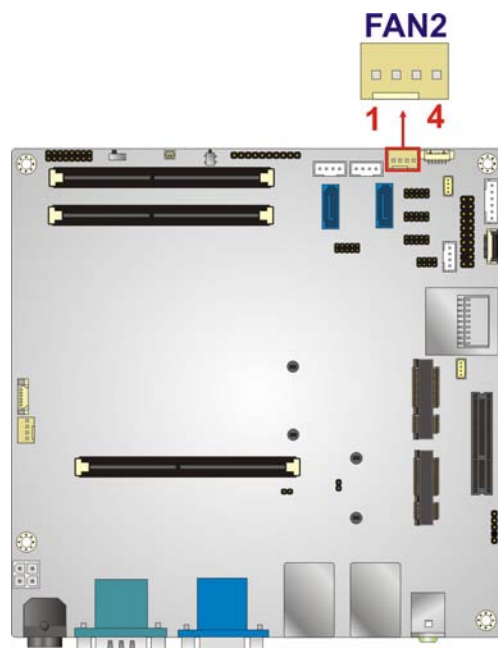

Figure 3-24: System Fan Connector Locations
- CN Location: See **Figure 3-24**